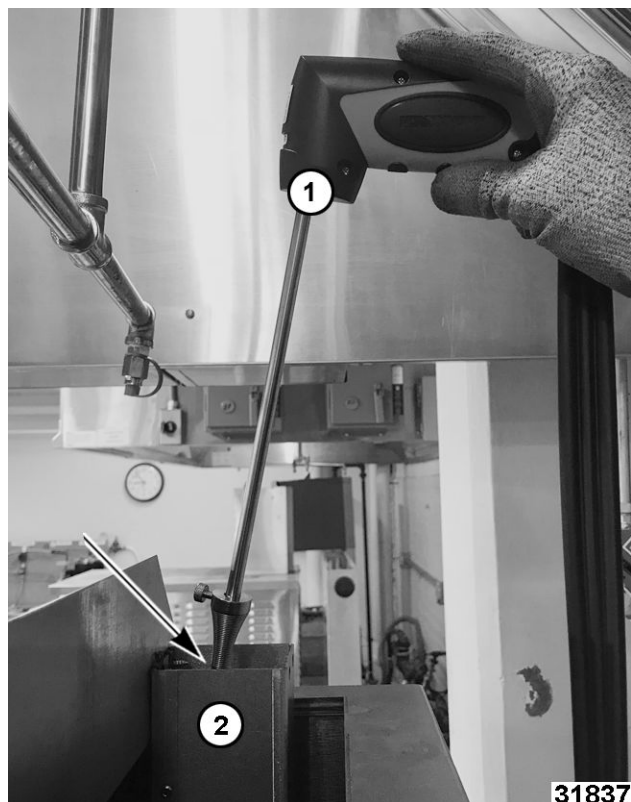

Fig. 49
- A. Insert analyzer (1, Fig. 49) into exhaust flue (2, Fig. 49) as shown.